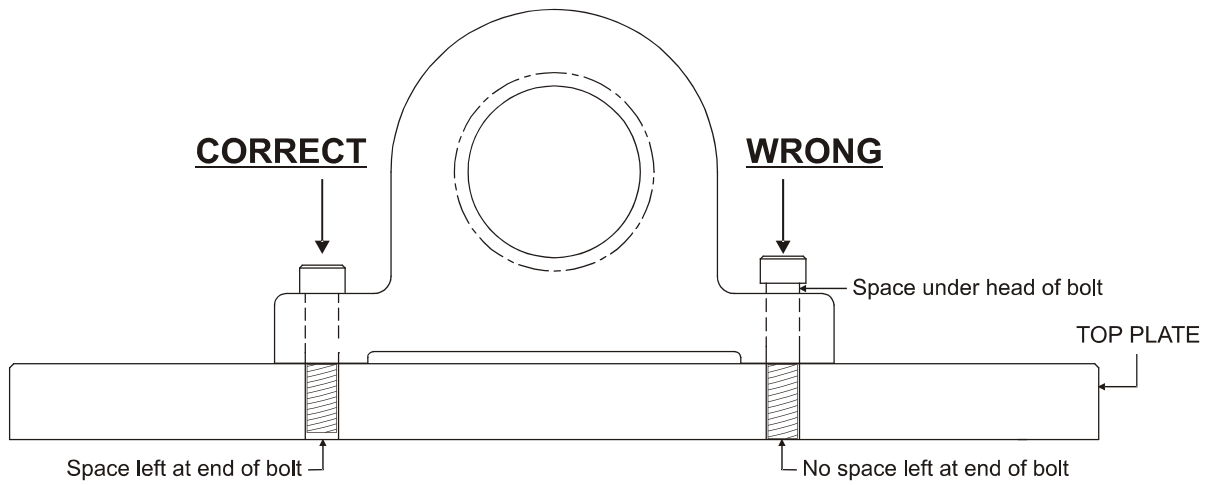

Figure 9 - BEARING MOUNTING BOLT LENGTH
2. Place the bearings and roll on the transducers and mount the bearings to the transducers with the appropriate cap screws. The length of the cap screws should be sufficient to anchor the bearings, but not so long as to exceed the maximum thread engagement with the top plate (0.54" for the size F2, 0.92" for Size F3). If the cap screw is too long, the bearing will not clamp tightly to the top plate and the screw will interfere with force transfer to the sensing beam, and vibration and damage can occur. See Figure 9.